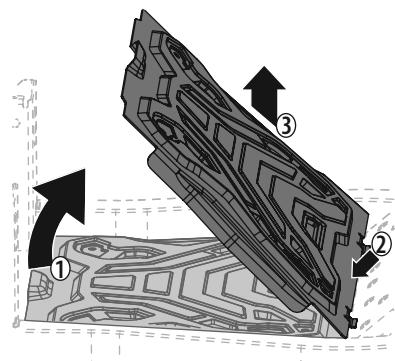

Figure 36
- Carefully lift the rear of the floor panel. See 1 in Figure 36.
- Slide the floor panel rearward to free the front of the floor panel. See 2 in Figure 36.
- Lift it off the tractor. See 3 in Figure 36.